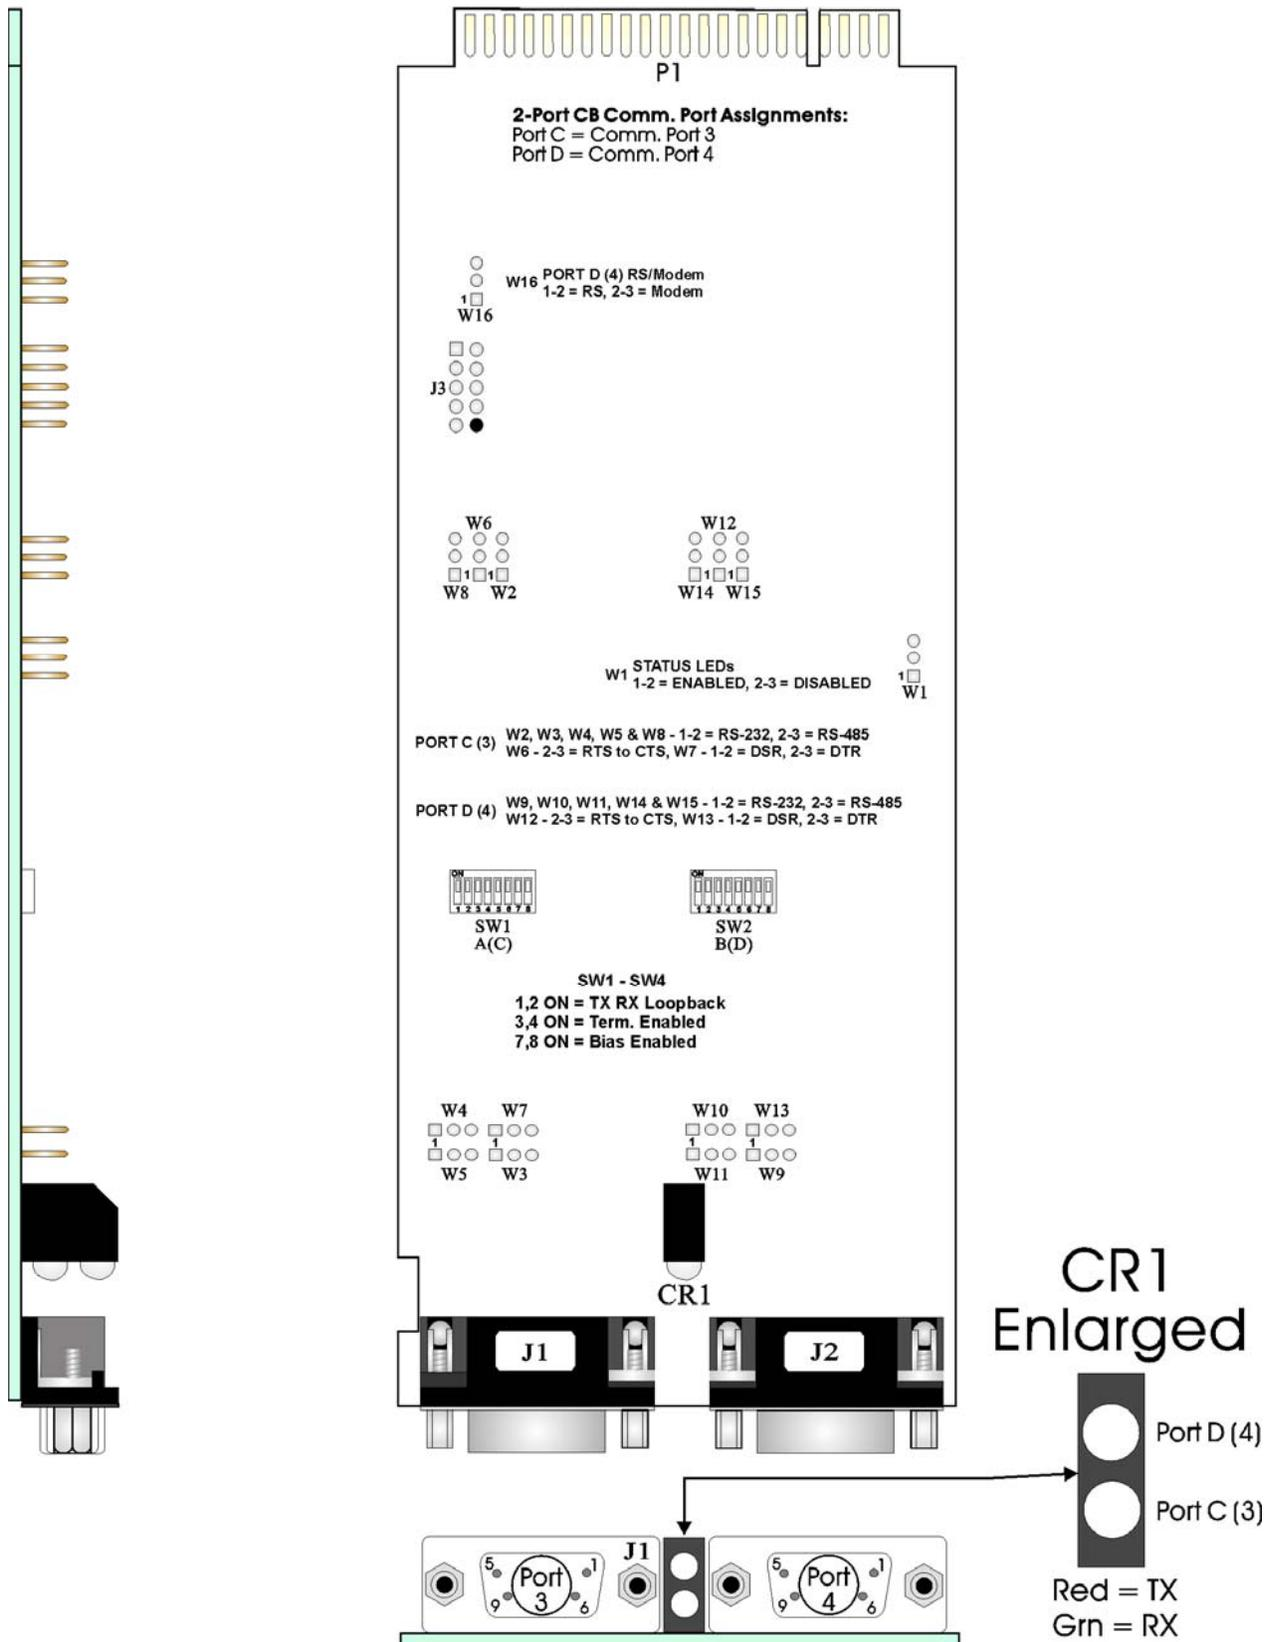

Figure 9 - CW_35 - 2-Port CB Board Component Identification Diagram
The 4-Port CB and 2-Port CB Boards contains up to twenty-one configuration jumpers to set various communication parameters. Figures 9 and 10 provide the location of the configuration jumpers. CB configuration jumpers are set according to Table 8.
The CB Boards provide a TX and RX indicator for each communication channel. TX will light when the channel is transmitting data and RX lights when the channel is receiving data. Depending upon the data activity, the LEDs may blink or appear continuously lit during communication activity. The LEDs will be out when there is no activity (see Figures 9 & 10).
CB Boards will have 2 or 4 serial communication ports that are supported by 9-pin female D-type connectors that have pinouts the same as DPC 3335 ECOM Boards (see Figures 9 & 10 and Table 9. All CB Board Comm. Ports can be individually user configured for RS-232 or RS-485 operation.
3. Configure the DIP Switches and Jumpers on the CB (if provided) (see Figures 9 and 10). Sections 3.2.1 and 3.2.1 provide information on CB Board DIP Switches and Jumpers, respectively. Install the CB Board into the **CW_35** (see Figure 2).